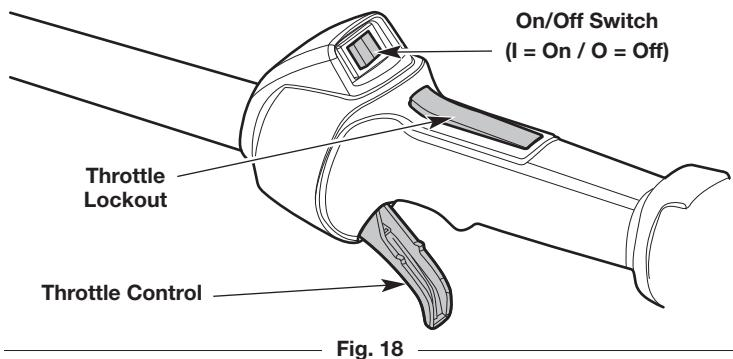

Fig. 18
**NOTE:** There is no need to turn the unit on. The On/Off switch is in the **On (I)** position at all times (Fig. 18).
**NOTE: DO NOT squeeze the throttle control (Fig. 18) until step 6.**
6. Press and hold the throttle lockout (Fig. 18). Squeeze the throttle control as needed for operation (Fig. 18).
2. Press and hold the On/Off switch in the **Off (O)** position until the engine comes to a complete stop (Fig. 18).